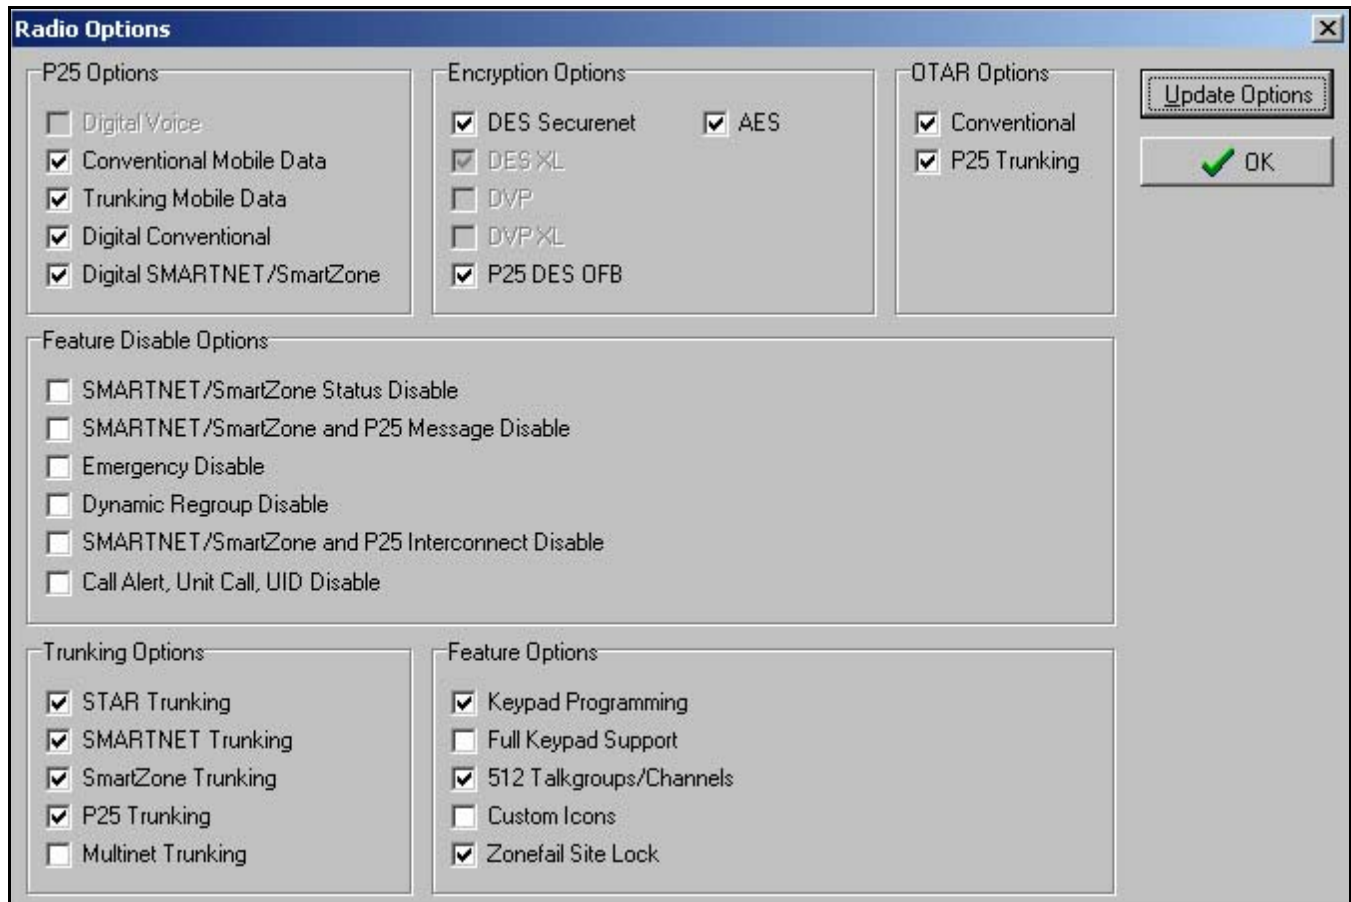

Figure 8-1 PCConfigure Radio Options Screen
The capability exists to upgrade radios in the field with new features. A new feature can be purchased and a special encrypted code string keyed to the ESN (Electronic Serial Number) of the radio is then provided by the EFJohnson Company. This string is in the form of a computer file, and is downloaded to the radio using the PCConfigure programming software. This is initiated by clicking the "Update Options" button on the Radio Options screen shown in Figure 8-1.
3. To display the Radio Options screen shown in Figure 8-1, select **Transfer > Read Options From Radio**.